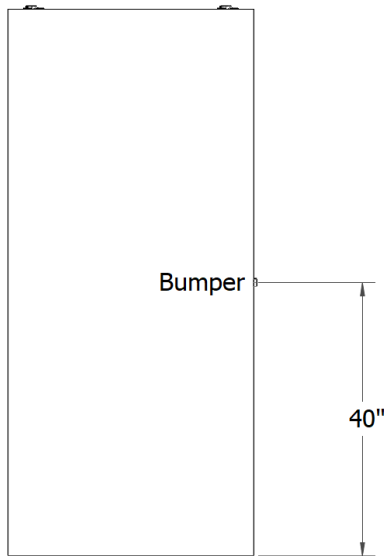

Figure 9
- Create a pilot hole using a 5/64" drill bit at the center of the pocket side door thickness, 40" from the bottom of the door. See Figure 9.